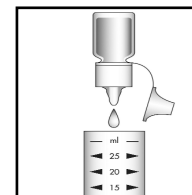

Figure 2
3. Shake the A-3801 Activator Solution, then add 5 drops to the sample cup (fig. 2). Stir to mix the contents of the cup.